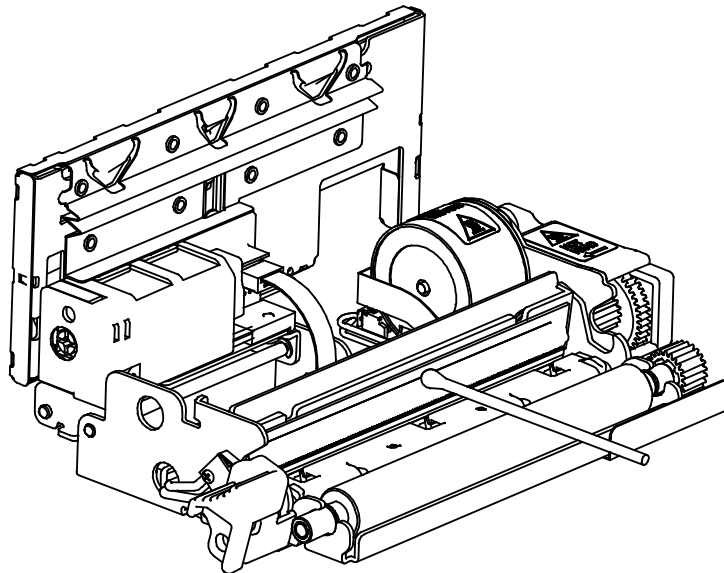

Figure 8-6 Head Cleaning Procedures
- (1) Set the cutter unit and the platen block in open state by the same operation as the unloading thermal paper.
- (2) Clean the heating elements using ethyl alcohol or isopropyl alcohol and a cotton swab. (See Figure 8-6)
- (3) Wait until the alcohol dries before closing the cutter unit and the platen block.